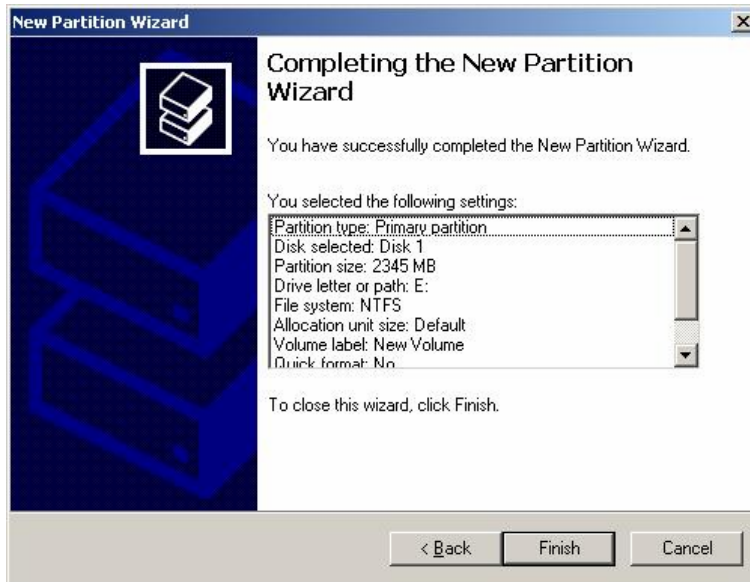

Figure 3.9 Successful Partition Format Confirmation Panel
7. When the format operation is complete, select **OK**. The New Partition Wizard displays the new partition (see Figure 3.9). To close the New Partition Wizard, select **Finish**.